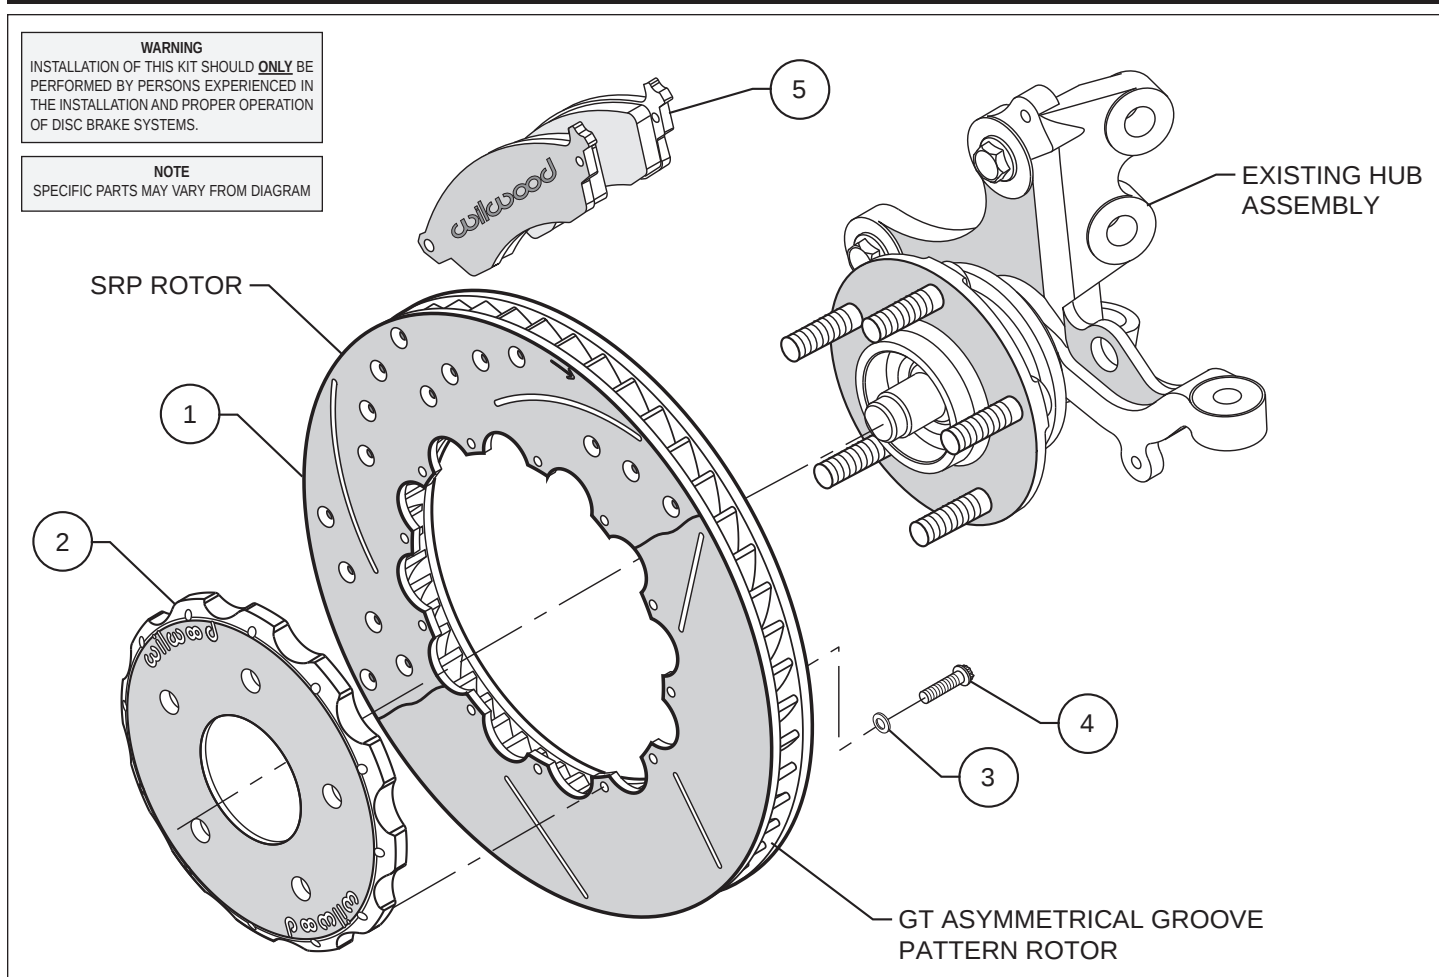
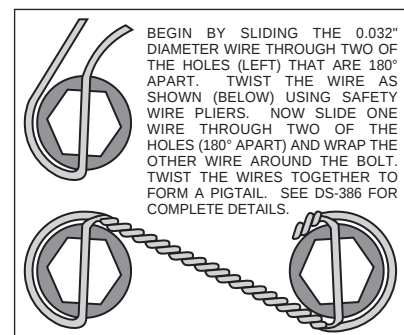

Figure 1. Typical Installation Configuration
Figure 2. Safety Wire Diagram
- Assemble the rotor (1) to the hat (2) with the bolts (4) and washers (3) provided in the configuration shown in Figure 1. Using an alternating sequence, apply red *Loctite*® 271 to the threads and torque bolts to 155 **in-lb**. For an added measure of security, the bolts may be safety wired using standard 0.032 inch diameter stainless steel safety wire as shown in Figure 2. Please refer to Wilwood's data sheet DS-386 (available at www.wilwood.com/Pdf/DataSheets/ds386.pdf) for complete safety wire installation instructions.